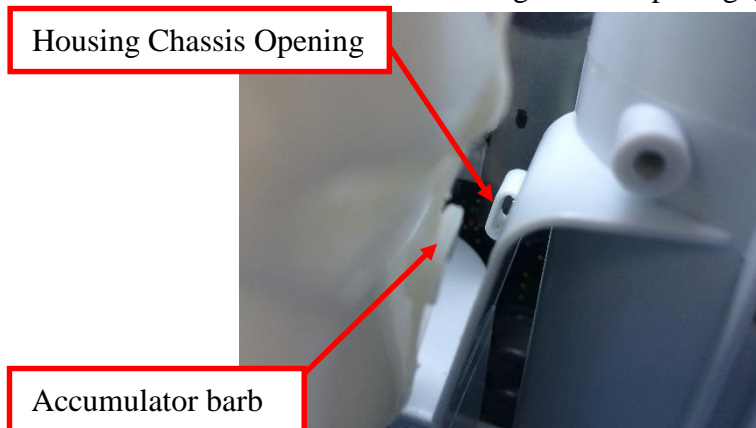

Figure 14: Accumulator barb and Housing chassis opening
2. Slide the accumulator barb into the housing chassis opening (Figure 14).